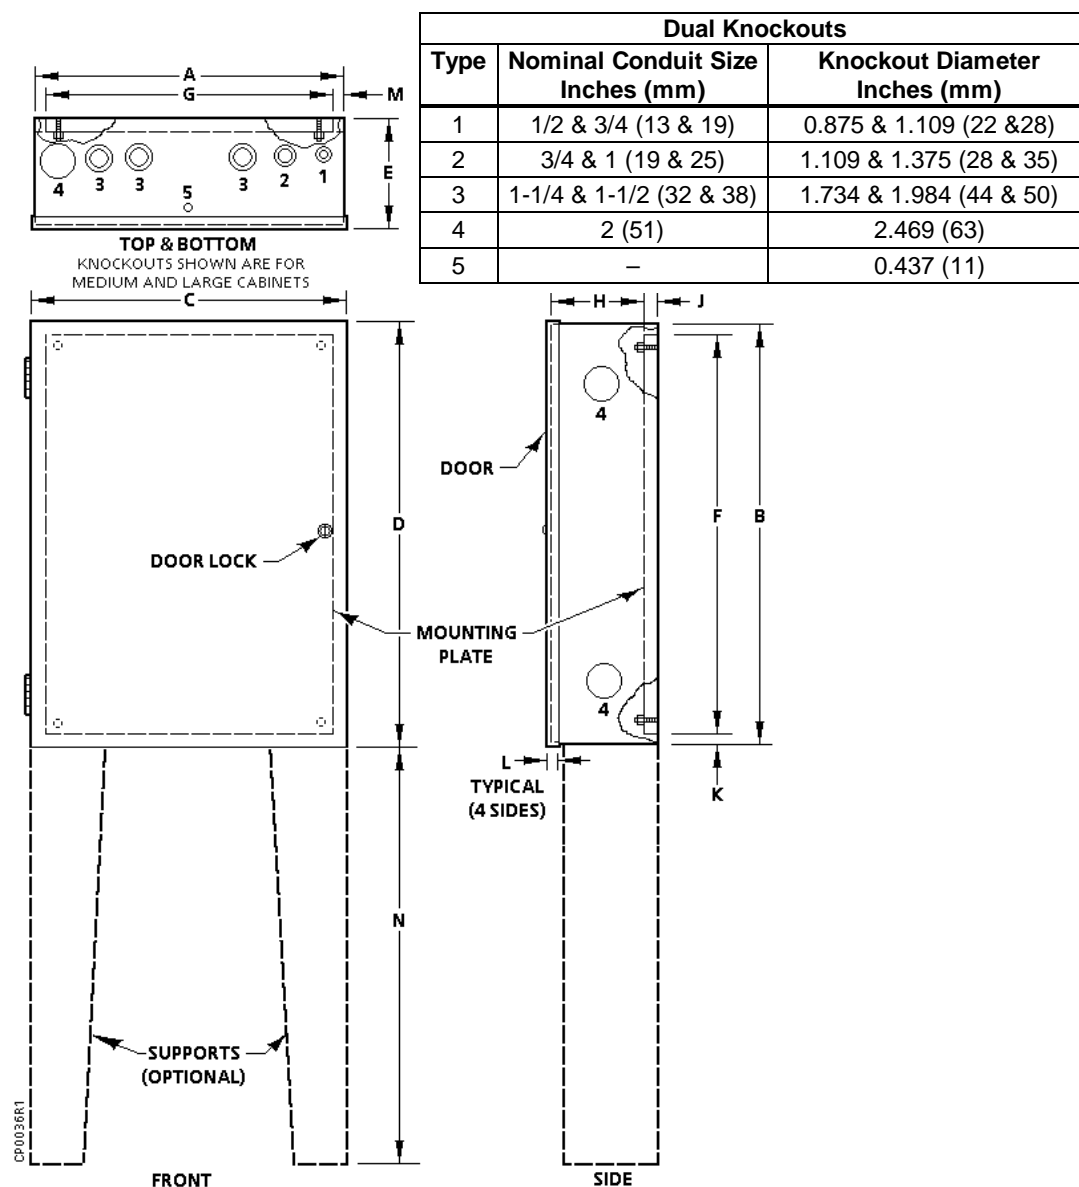

Figure 4. Cabinet and Support Dimensions (See Table 5 and Figure 9).
1. The space required for the controls mounted in the door or the mounting plate is shown in Table 4. Space available between the door and the mounting plate is shown in Figure 4, Table 5, and Table 6.
Table 7. Cabinet Assembly Dimensions (See Figures 4, 5, and 6).